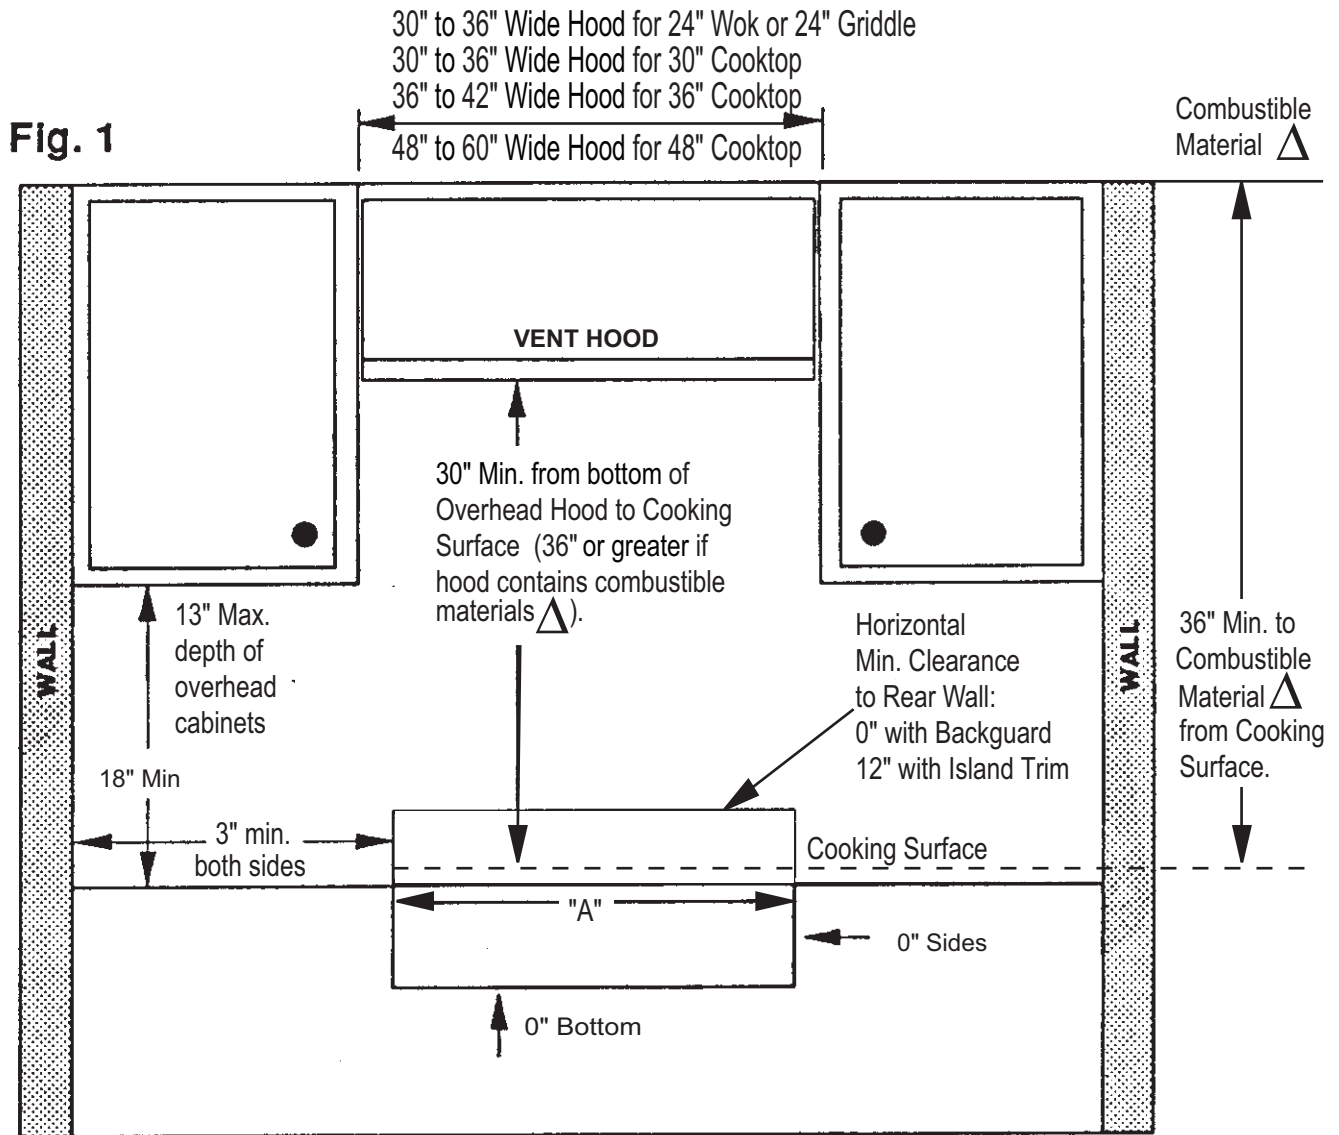

Figure 1: Clearance Requirements
- For best smoke elimination, the lower edge of the hood should be installed 30" above the appliance cooking surface. (See Figure 1).
- * For high output gas cooktops (60,000 BTU or greater), the minimum of one (1) CFM of ventilation per 100 BTU is recommended. If the cooktop has a grill or griddle, add 200 CFM to the estimated blower capacity. Add 400 CFM if the cooktop has a 24" griddle or wok. Additional blower capacity may be required for longer duct runs.
2. The clearances shown in Figure 1 are required. The same clearances apply to island installations, except for the overhead cabinets, which must have a space wide enough to accept the island hood.
11. For installation of a 48" cooktop above two side-by-side Thermador Warming Drawers, Model No. WD24, refer to Figure 8. Completing the installation as per Figure 8 will result in the left and right edges of the cooktop being aligned with the left edge of the left-side warming drawer and right edge of the right-side warming drawer. If different alignment is desired, the 1-7/8" horizontal distance between warming drawer cutouts may be varied. However, maintain at least a 1-1/8" distance to avoid interference between the warming drawers. Attach a 90-degree elbow to the gas cooktop inlet pipe. All above-the-countertop clearances must be maintained, as shown in Figure 1.